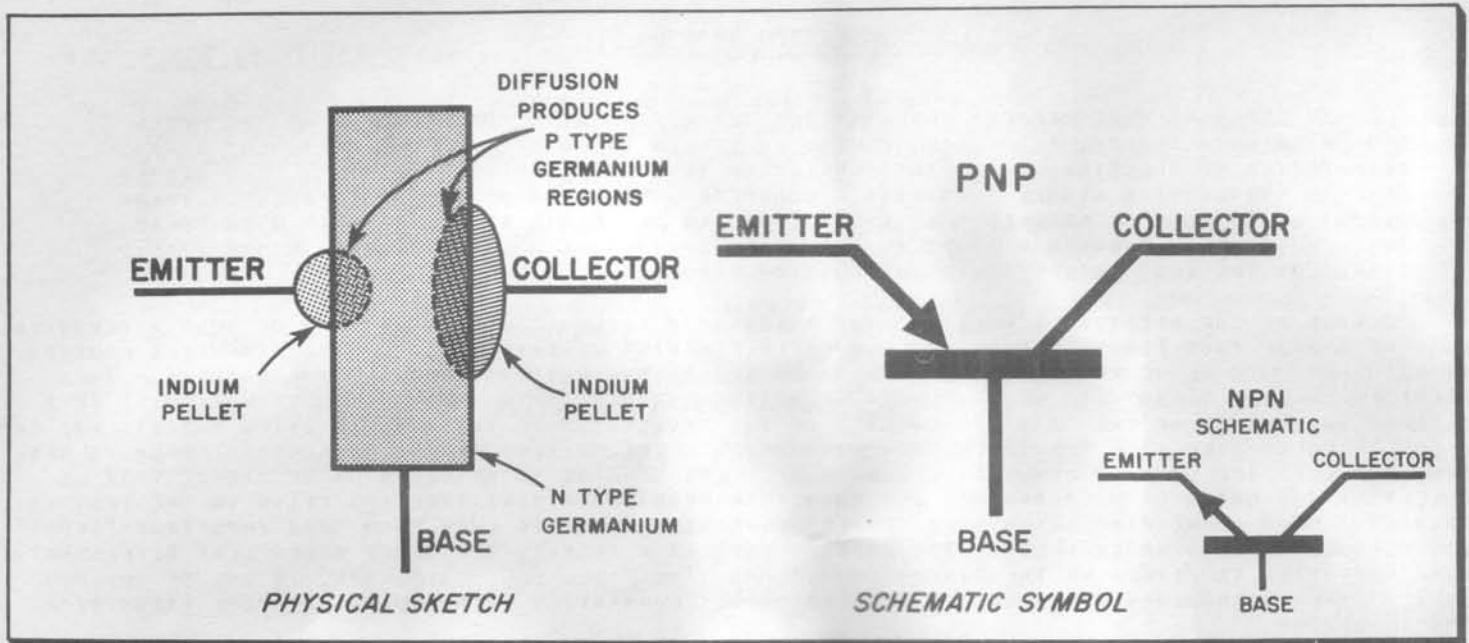
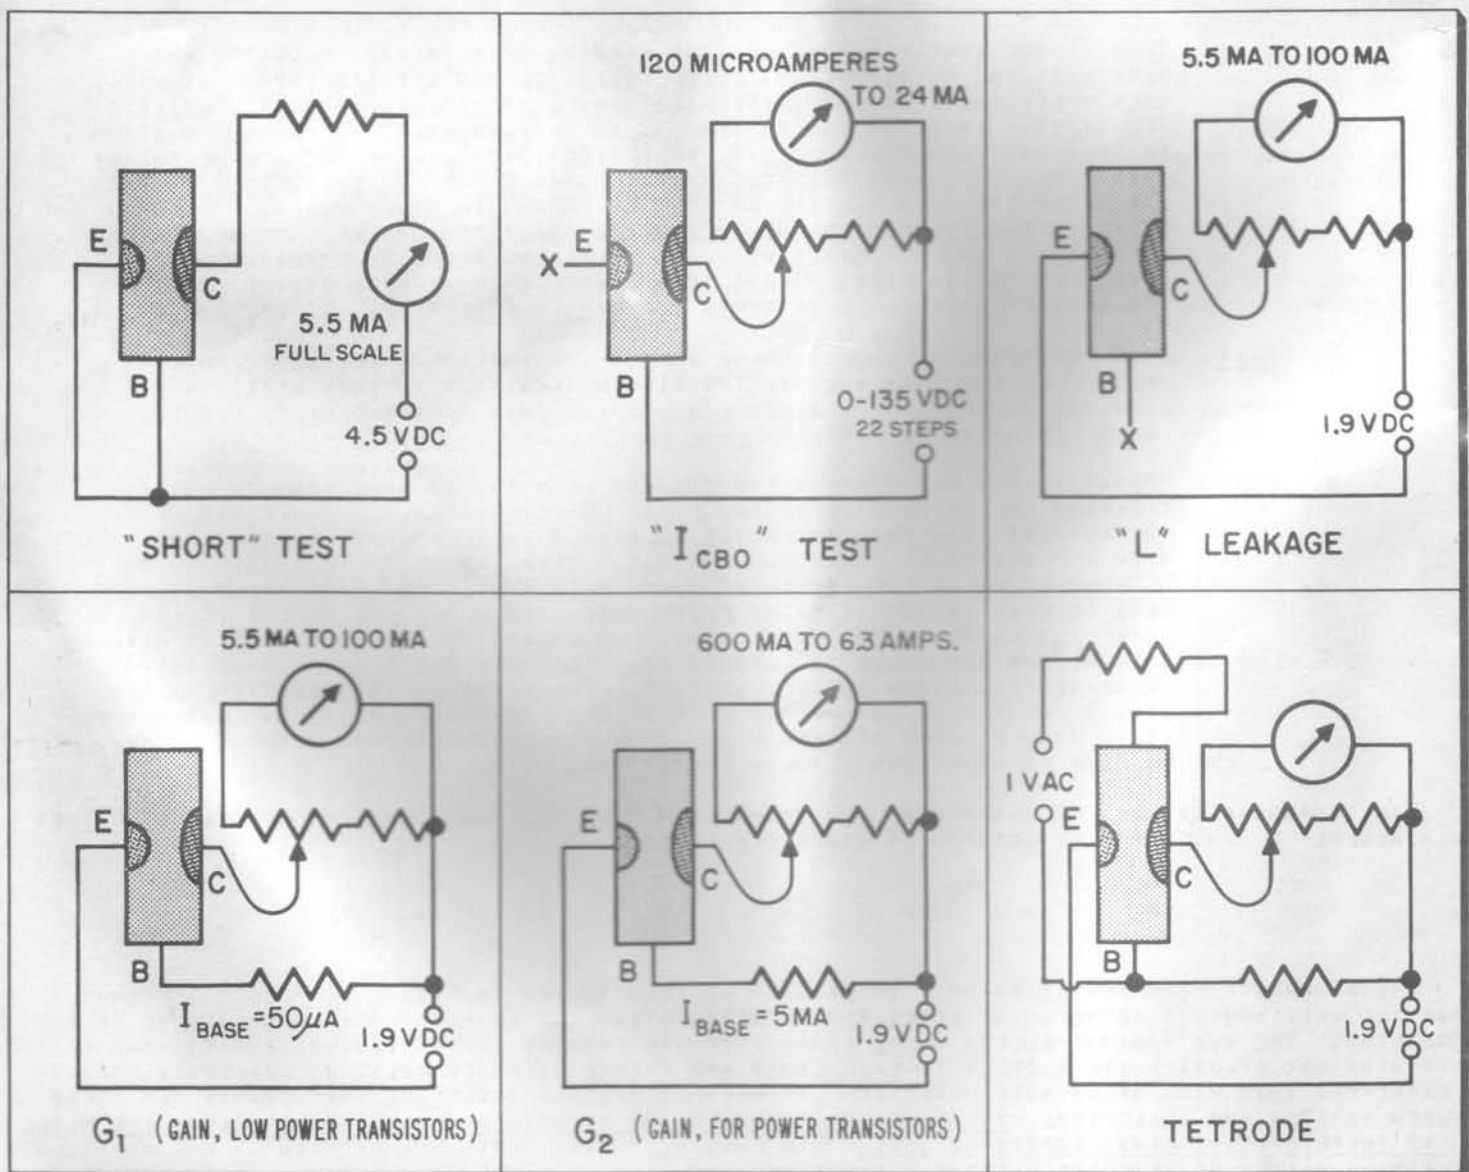

FIG. 1 DIFFUSED JUNCTION PNP TRANSISTOR
FIG. 2 BASIC CIRCUITS • 660 TRANSISTOR TESTS
1. I_{cbo} - THIS SYMBOL INDICATES THE CURRENT FLOWING BETWEEN THE COLLECTOR AND BASE WITH THE EMITTER OPEN. SEE FIG. 2, SECOND ILLUSTRATION. IT WILL BE NOTICED THEREFORE THAT THE FIRST TWO SYMBOLS AFTER THE "I" INDICATE THE CIRCUIT IN WHICH THE CURRENT IS TO BE MEASURED: THE SYMBOL MISSING IN THIS PARTICULAR EXAMPLE IS THE "E" (EMITTER). THE "O" AT THE END OF THE SYMBOL INDICATES THAT THE MISSING SYMBOL ("E" IN THIS CASE) IS OPEN CIRCUITED FOR THIS PARTICULAR TYPE OF TEST. IN OTHER WORDS, IF WE HAD A CASE WHERE THE TEST REQUIRED A MEASUREMENT OF CURRENT FLOWING BETWEEN THE EMITTER AND THE BASE, WITH THE COLLECTOR OPEN, THE SYMBOL WOULD READ " I_{ebo} ". IN FACT, " I_{ebo} " IS A CHARACTERISTIC USED BY THE TRANSISTOR MANUFACTURER FOR SOME TYPES OF TESTS. (SEE PAGES 15, 16, AND 17)
THE SCHEMATIC REPRESENTATION OF A TRANSISTOR IS ILLUSTRATED IN FIGURE 1, PAGE 4. FIGURE 1 SHOWS THE RELATIONSHIP BETWEEN THE SCHEMATIC REPRESENTATION AND ACTUAL PHYSICAL STRUCTURE OF THE TRANSISTOR. THE TWO INDIUM PELLETS WHICH CONSTITUTE THE EMITTER AND COLLECTOR TERMINATIONS OF THE TRANSISTOR ARE SPACED QUITE CLOSELY TO EACH OTHER AND CREATE DIFFUSED REGIONS, SEPARATED ONLY BY AN EXTREMELY THIN WALL OF CRYSTAL MATERIAL. IT BECOMES OBVIOUS THEREFORE THAT SHORTS MAY OCCUR BETWEEN EMITTER AND COLLECTOR: THE "SHORT" POSITION OF THE TRANSISTOR TEST FACILITIES OF THE MODEL 660 IS THEREFORE THE FIRST IMPORTANT TEST. SEE FIG. 2, "SHORT TEST". A SHORTED OR LOW RESISTANCE TRANSISTOR SHOULD BE REJECTED WITHOUT FURTHER TESTING.
AS NOTED PREVIOUSLY, ICBO (COLLECTOR CUT-OFF CURRENT), WHICH IS MEASURED PER FIG. 2, SECOND ILLUSTRATION, IS THE BASIC TRANSISTOR TEST PARAMETER, AND IS THE SECOND TEST PERFORMED ON ALL TRANSISTORS BY THE 660.
THE THIRD TRANSISTOR TEST IS DESIGNATED AS "L" OR LEAKAGE. THE BASIC CIRCUIT FOR THIS LEAKAGE TEST IS INDICATED IN FIG. 2, THIRD ILLUSTRATION, AND PROVIDES A METER READING WHICH IS ESSENTIALLY THE ICBO OF THE TRANSISTOR MULTIPLIED BY THE BETA (GAIN). TEST POSITION "L" ON THE "D" SWITCH OF THE 660 SETS UP THE INSTRUMENT FOR THIS LEAKAGE TEST. THIS LEAKAGE TEST IN ITSELF IS OF NO SPECIAL SIGNIFICANCE INSOFAR AS THE CONDITION OF THE TRANSISTOR IS CONCERNED. IT MERELY SERVES AS AN INITIAL READING TO BE SUBTRACTED FROM THE NEXT TEST WHICH IS DESIGNATED ON THE PANEL AS "G₁" FOR "GAIN". SEE FIG. 2, FOURTH ILLUSTRATION.